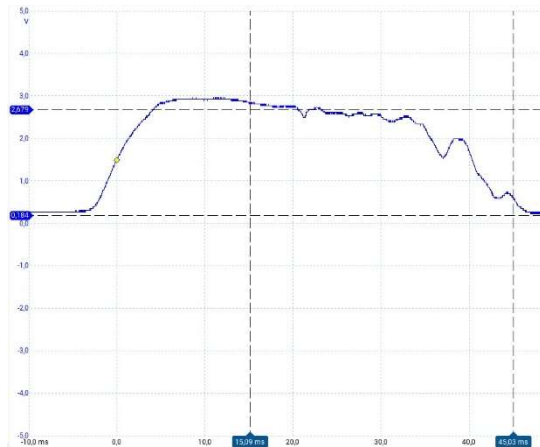

Fig. 1 Jet shape in dripper
Figure 1 shows a waveform corresponding to a constant flow pattern or continuous flow. When a first amplitude threshold is exceeded, there is a first timeout interval of 5 ms. If at this point the voltage stays above the threshold, the system waits until the voltage stabilizes at a "Baseline" level, which is the normal voltage when the liquid is not passing through. The firmware is able to capture the event and counts the time elapsed from the beginning (first threshold) to the end (second threshold) and a volume is obtained by applying the formula for continuous flow (3).